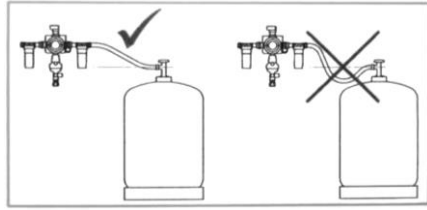

Fig. 62 Correct connection of the gas bottle
- ▶ Connect gas pipe such that it rises from the gas bottle towards the regulating system (see Fig. 62).